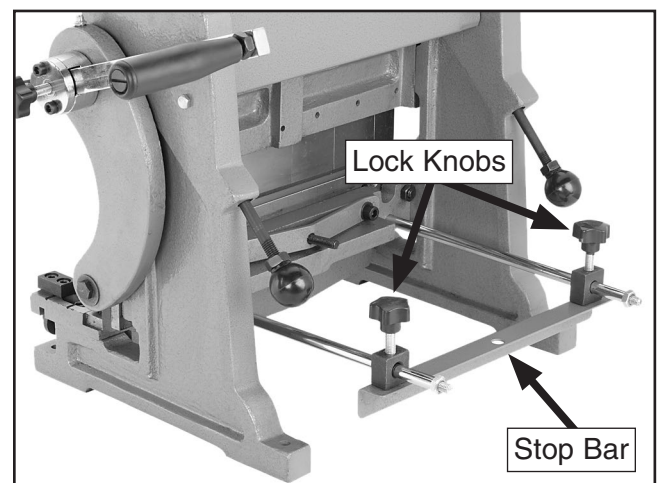

Figure 10. Work stop installed for use with the shear.
4. Remove the hex nuts from the ends of the rods, slide the stop bar onto the rods and position it for your operation, then tighten the lock knobs to secure it, as shown in **Figure 10**.